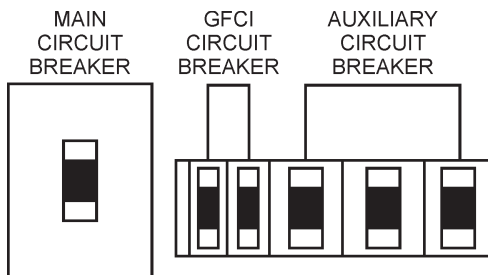

Figure 57. Main, GFCI and Load Circuit Breakers Off
1. Place both the **MAIN, GFCI and LOAD** circuit breakers as shown in Figure 57 to the **OFF** position.